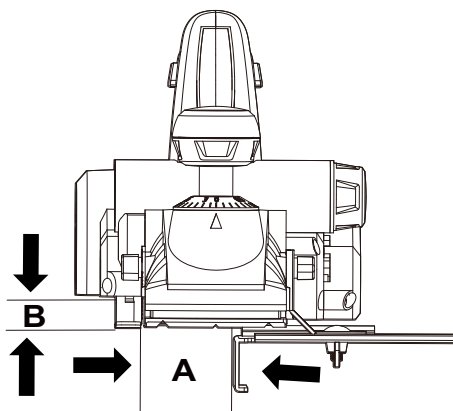

Figure 6
2. USING THE PARALLEL GUIDE AND REBATE GUIDE (SEE FIG. 6)